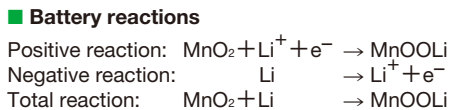

Fig. 1 Relationship between Discharge Current Consumption and Duration Time
- Optimum for Memory and RTC Backup (Fig. 1)**